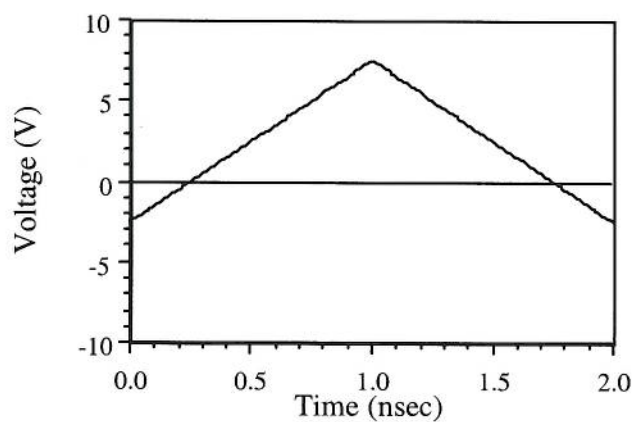

Figure 3.
- c) A modulator as described above is equipped with phase modulators for which the voltage giving π radians phase change is $V_\pi = 10$ V. The phase modulators are driven in opposite directions with the voltage waveform shown in Figure 3 below. Explaining your reasoning, sketch the time variation of the output power. [6]